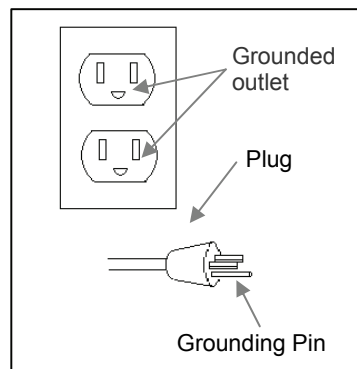

Figure 1
J. POWER CORD: This product is for use on a nominal 120-volt circuit and should be grounded. A cord with a grounding plug as illustrated must be used. Make sure that the product is connected to an outlet having the same configuration as the plug (see Figure 1). No adapter should be used with this product.